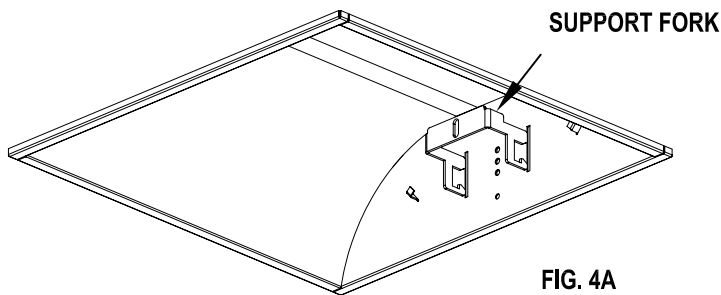

FIG. 4A
4. INSERT SUPPORT FORK THROUGH SLOTS IN HOUSING (SOCKETS ARE DISENGAGED PRIOR TO SHIPMENT AND INSTALLATION). PRESS FORK DOWN UNTIL CONTACT IS MADE WITH DRYWALL CEILING, AND SECURE WITH SUPPLIED #8 SCREW. (FIG.4A &4B) REPEAT PROCEDURE FOR THE OTHER SIDE.